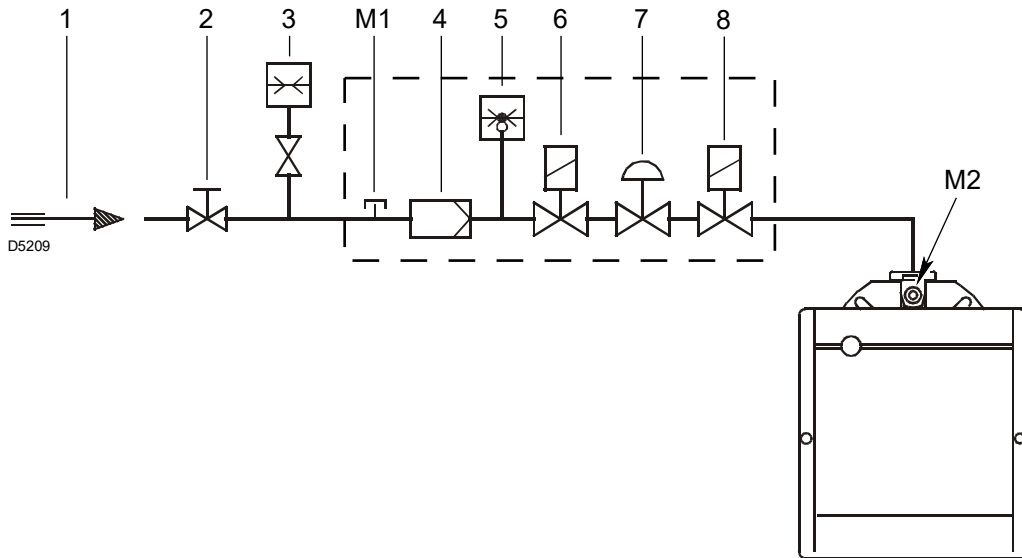

Fig. 16
Key (Fig. 16)
Gas pressure measured at test point M2) (Fig. 16), with:
- subtract the pressure in the combustion chamber from the pressure of the gas at test point M2) (Fig. 16).
Gas pressure at test point M2) (Fig. 16) = 10 mbar
To calculate the required gas pressure at test point M2) (Fig. 16), with the maximum modulating output at which you want the burner to operate having been fixed:
- Read on the right, column 1, the pressure at the socket M2) (Fig. 16).